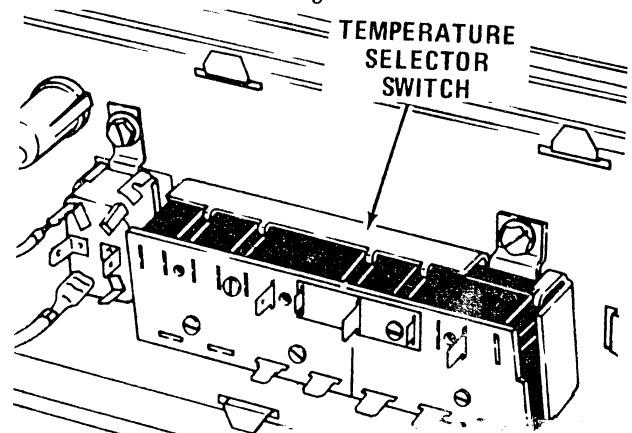

Figure 19A, Pushbutton Temperature Selector Switch.
1. The pushbutton temperature selector switch, which is mounted in the machine console, refer to Figure 19A.
This switch is mounted to the console as shown in *Figure 19A*. The switch can be checked by using the following chart and an ohmmeter.